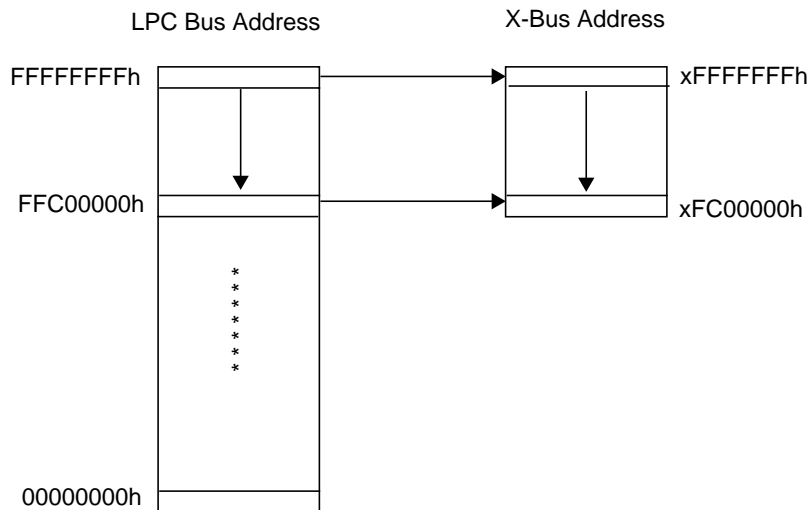

Figure 22. LPC to X-Bus Address Translation: 386 Mode-Compatible BIOS Range
- User-Defined Zone (UDZ) and 386 Mode-Compatible BIOS Range (LPC or LPC-FWH) - The 28 least significant bits of the LPC address are used as the X-Bus input address. Figure 22 illustrates the mapping for this zone. (Note: See Section 2.8.1 for the way addresses are built for FWH transactions.)